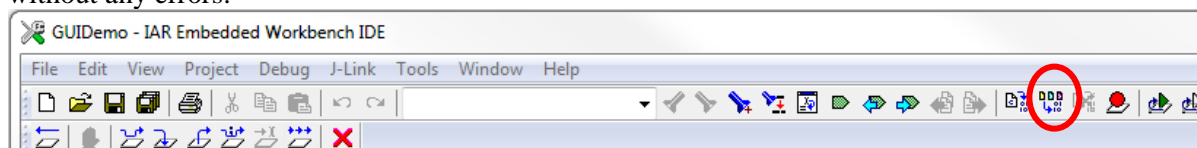

Figure 4 - IAR Embedded Workbench IDE-Menu and toolbar
- To explore the C-SPY debugging features or change the J-Link settings, choose the **View** and **J-Link** menu (see Figure 4).